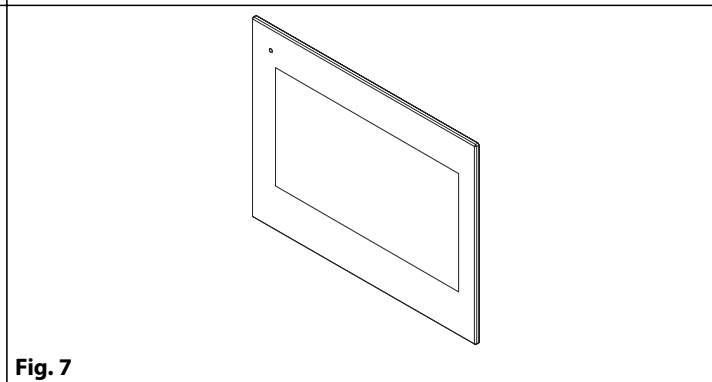

Fig. 7
5. The video intercom is installed (Fig. 7), power up the system and check that it works correctly.